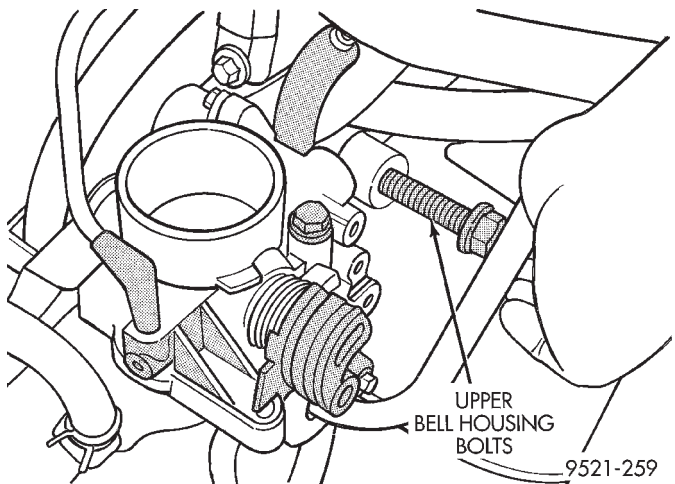
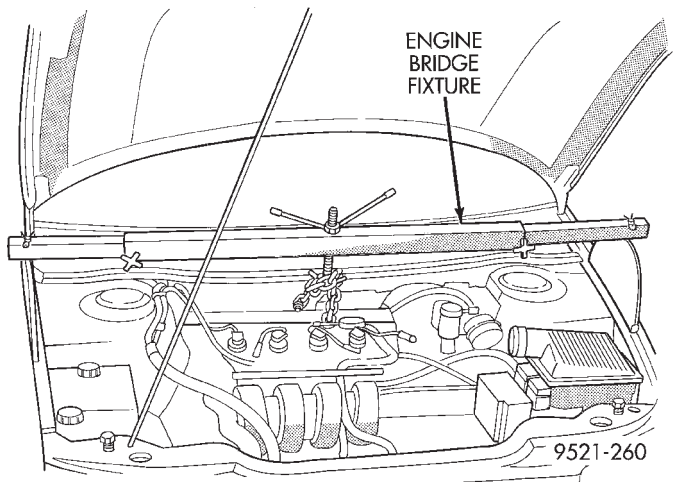

Fig. 27 Upper Bellhousing Bolts
Fig. 28 Engine Bridge Fixture
(11) Remove upper bellhousing bolts (Fig. 27).
(12) Remove vehicle speed sensor.
(13) Remove back up lamp wiring at transaxle.
(14) Install engine bridge fixture and support engine (Fig. 28).
(15) Lift vehicle on hoist and remove front wheels.